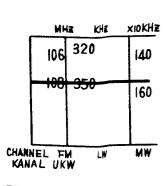

Fig. 15 (350 kHz)
| (3) | " | 350 kHz | [Fig. 15] | " | C ₁₉₅ (OSC Trimmer) C ₁₆₄ (ANT Trimmer) |